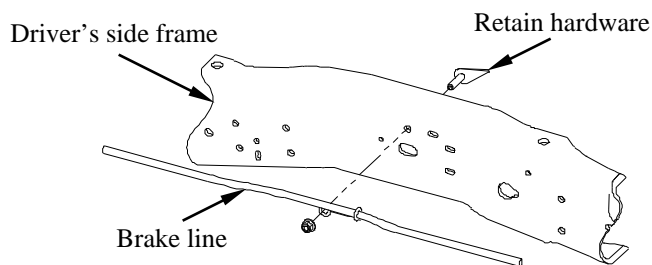

Figure 4a
3. **On 1999 To 2004 Vehicles Only.** Remove the upper emergency brake cable hanger from the frame of the truck and keep the hardware. See Figure 4a.